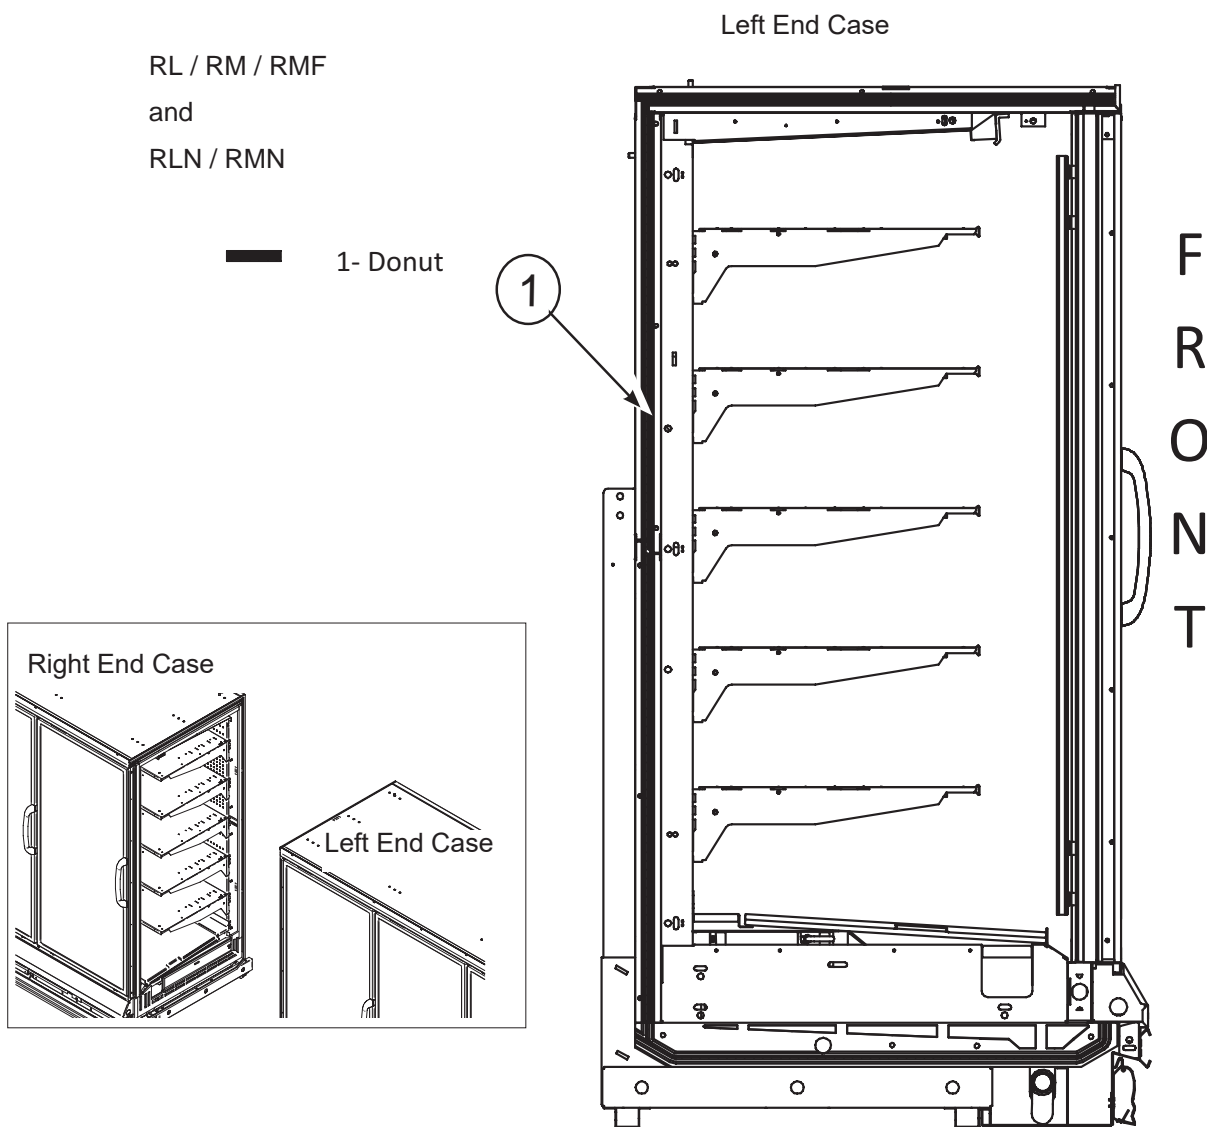

Figure 5A, Part 1. Apply Gasket to Left End of RL/RM/RMF and RLN/RMN
5. Apply Donut Gasket (1) in recess around both left end as shown in Figure 5A, Part 1; 5B or 5C, Part 1, and right end frames as shown in Figure 5A, Part 2; 5B or 5C, Part 2. Apply the wider Foam Tape Gasket (2) around the right end frame as shown in Figure 5A, Part 2, 5B or 5C, Part 2.